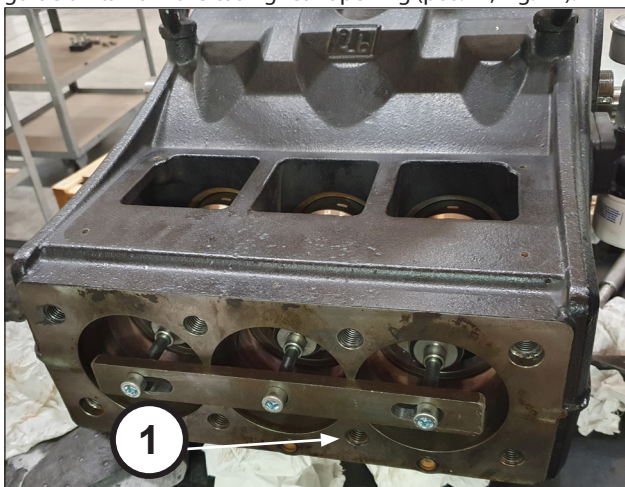
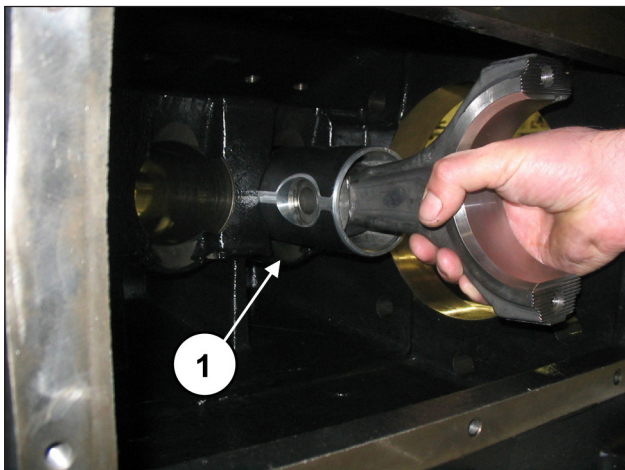
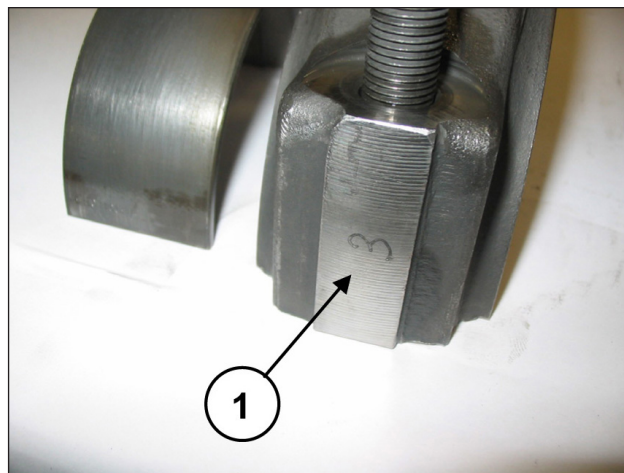

Fig. 41
Fig. 42
Fig. 43
Unscrew the screws with tool code 27566200 to unlock the conrods (pos. ①, Fig. 41) and then extract the conrod-piston guide units from the casing rear opening (pos. ①, Fig. 42).
Couple the half-conrods to the previously disassembled caps, referring to the numbering (pos. ①, Fig. 43).
Separate the caps from the half-conrods. Proper coupling can be verified by the numbering on the side (pos. ①, Fig. 43). After having checked casing cleaning, proceed with assembly of the half conrod-piston guide unit inside casing rods (pos. ①, Fig. 42).
Block the three units with the use of special tool code 27566200 (pos. ①, Fig. 41).
Remove the tool for blocking the conrods code 27566200 (pos. ①, Fig. 41).